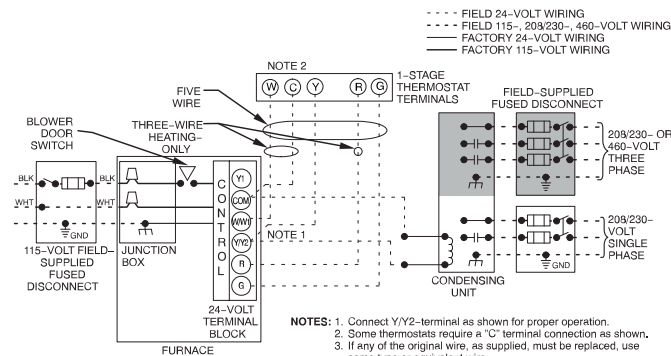

Fig. 33 – Typical Field Wiring Diagram
See Fig. 33 for field wiring diagram showing typical field 115-V wiring. Check all factory and field electrical connections for tightness.
6. Connect power cord power and neutral leads to furnace power leads as shown in Fig. 33.
5. Connect field power and neutral leads to furnace power leads. as shown in Fig. 33.
Make field 24-V connections at the 24-V terminal strip. See Fig. 38. Connect terminal Y/Y2 as shown in Fig. 33 for proper cooling operation. Use only AWG No. 18, color-coded, copper thermostat wire.